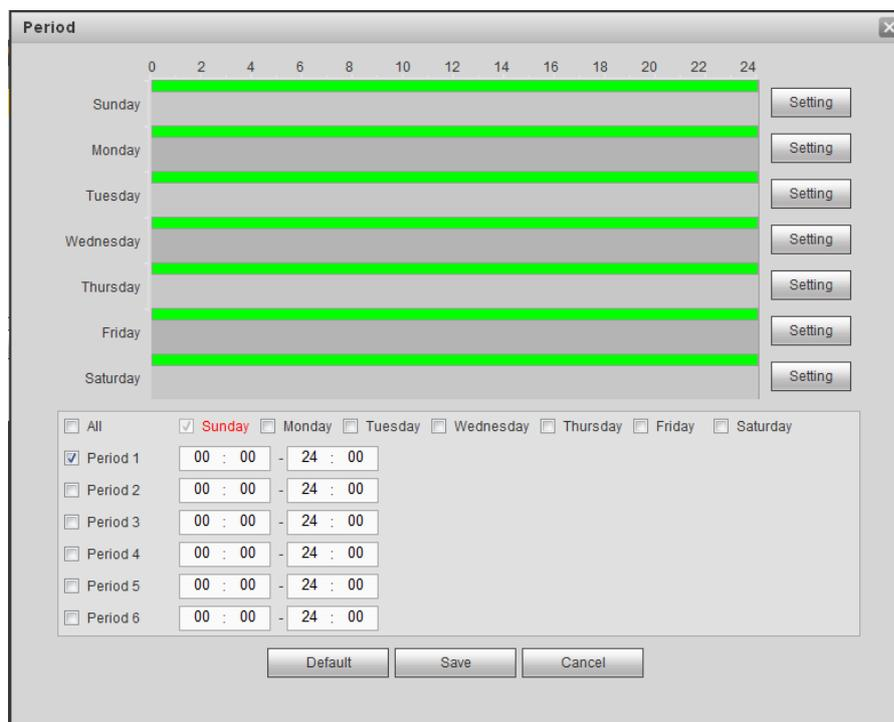

Figure 3-130
Step 3 Click the Set button after the period. It is to set valid period to use current account. See Figure 3-130.